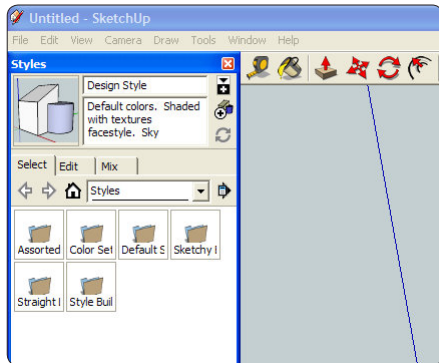

Figure 6. The Styles dialog box.
1. Click on the Window tab in the Menu bar to open the drop-down dialog box. Choose Styles to open a new window, as shown in Figure 6.